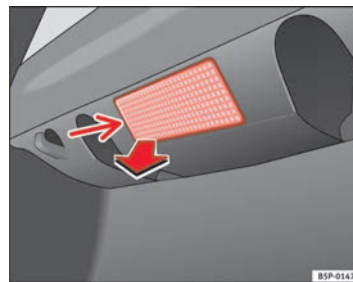

Fig. 175 Luggage compartment light
- Remove the bulb by pressing on the inside edge of this -arrow- using the flat side of a screwdriver ⇒ fig. 175. ▶